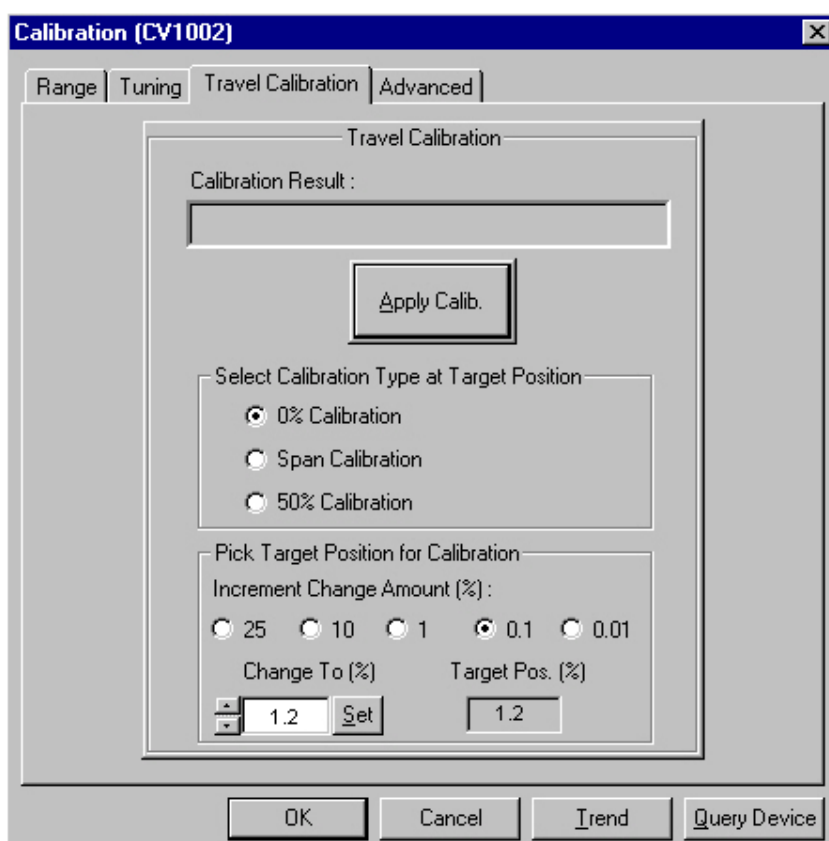

Figure 10.9 Increment the closed position (0% Calibration)
- Step 2 Select 0% Calibration. Move the valve by entering a value in the Current Target Position (Change To) text box, and clicking Set, until the valve is in the desired closed position. The valve can be jogged by selecting the Increment change amount (0.1 for example, in Figure 10.9) and by clicking the up or down arrow beside the Change to (%) text box. Click once and wait until the position value shows the change. Repeat until the valve is at the desired 0% position. (It is not necessary to click Set, when using the increment arrows.)